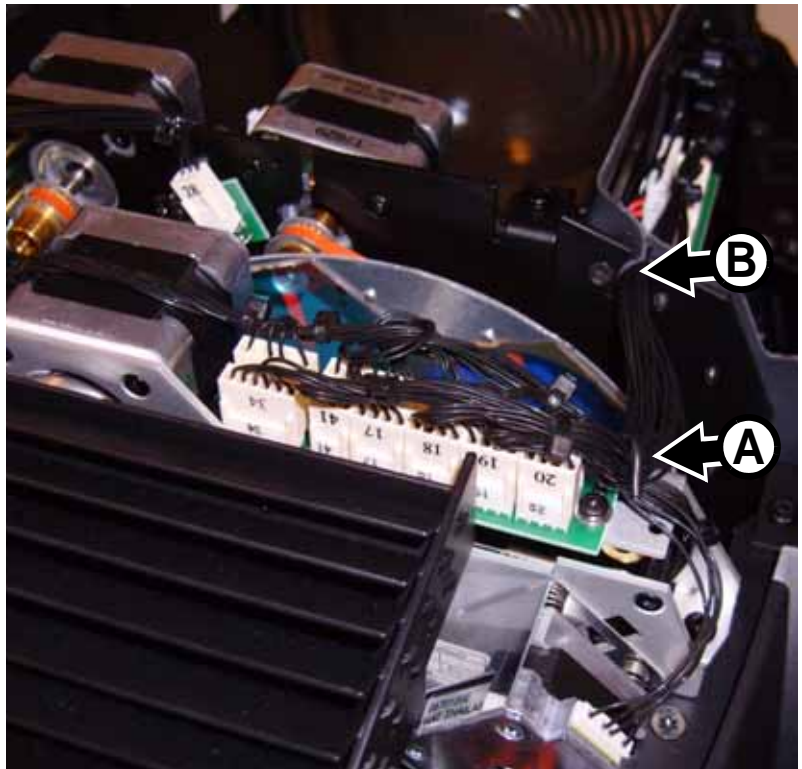

Figure 70
77. See Figure 70. Plug in multi-connectors 34, 41, 17, 18, 19 and 20 on the top of the CMY module on the right-hand side of the head. Secure the main CMY module wireset with the cable retaining clip **A** and pass it through the gap in the rubber shield **B** in the zoom/focus module, ensuring that wiring is held away from the color wheel.